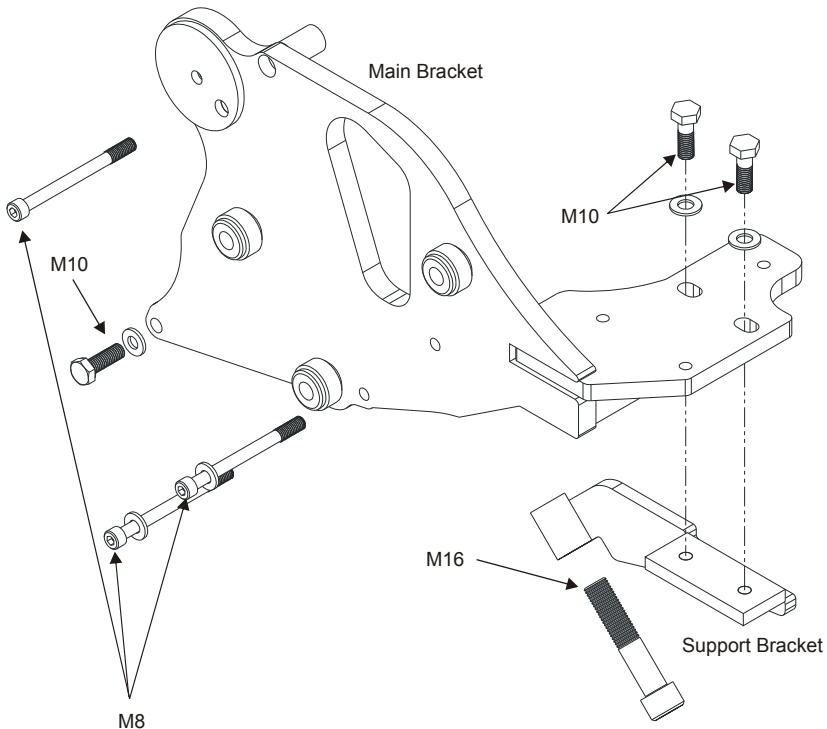

Figure 2.2
- Place the support bracket on the bottom of the driver's side cylinder head, insert the M16 bolt through the tube part of the bracket into the OEM hole in the cylinder head and hand tighten (Figure 2.2).
- Place the main bracket in position to locate the mounting points on the engine. Install and hand tighten the three M8 and one M10 bolts in the front plate (Figure 2.2).